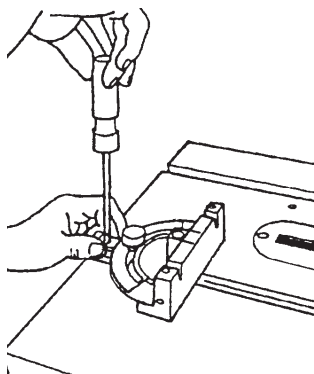

Figure 60
- b. Use a Medium Screwdriver, loosen the Screw which holds the Indicator Plate, and set its 0° to the Miter Gauge's 90°. Tighten the Screw. See Figure 60.